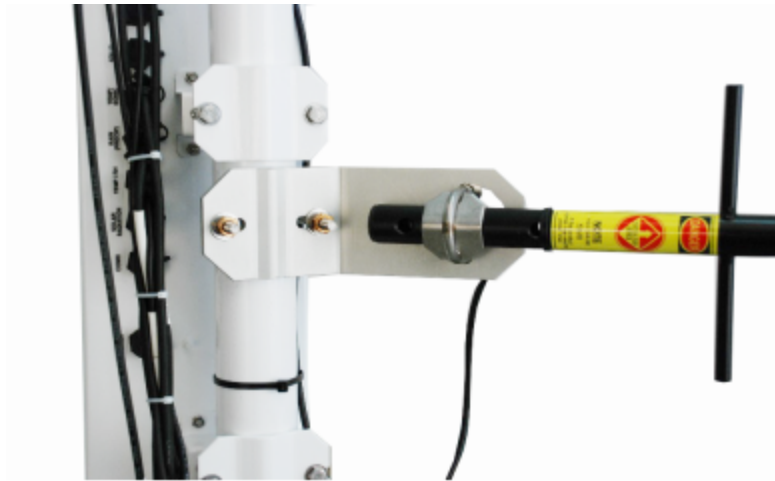

FIGURE 6-33. Yagi antenna mounted to saddle bracket
- b. If the Yagi antenna at the station is communicating with an omnidirectional antenna at the base, align the tines on the Yagi antenna so they are vertical (FIGURE 6-33 (p. 49)). If two Yagi antennas are used at both ends of communication, align the tines the same. If interference is a concern, align the tines on the two Yagi antennas horizontally instead of vertically. This will put the signal out of phase with other antennas that are aligned vertically.